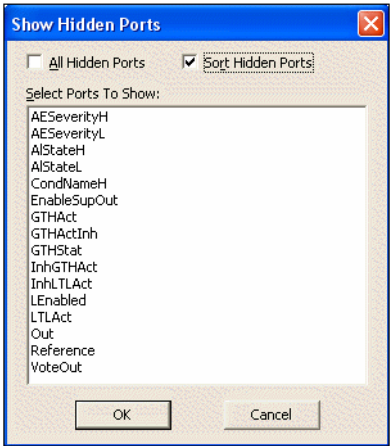

Figure 38. Show Hidden Ports Window
3. **Show Hidden Ports** dialog appears as shown in Figure 38.